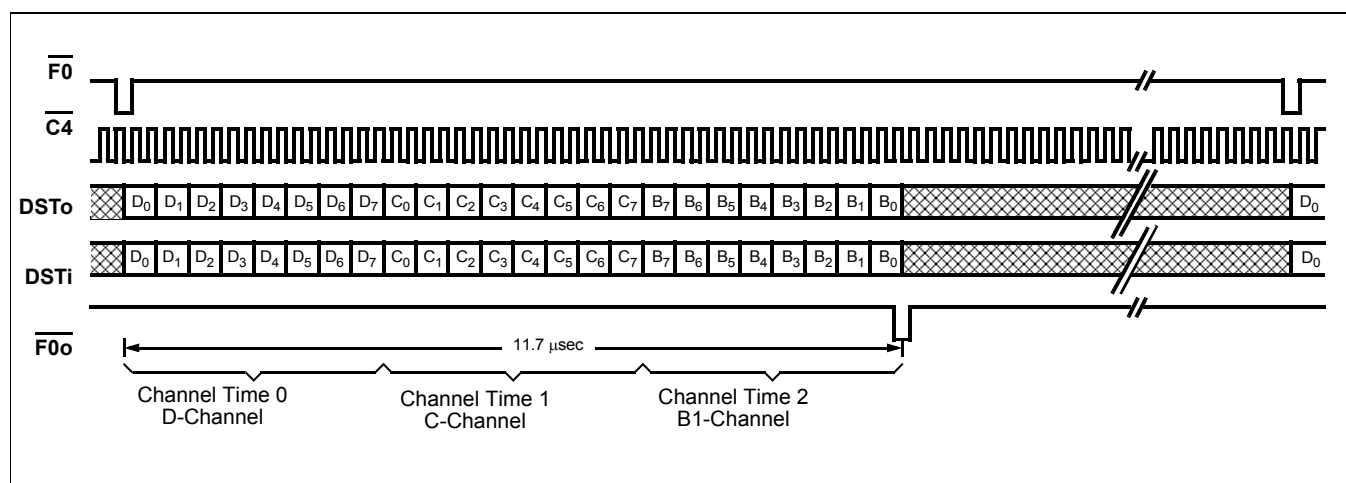
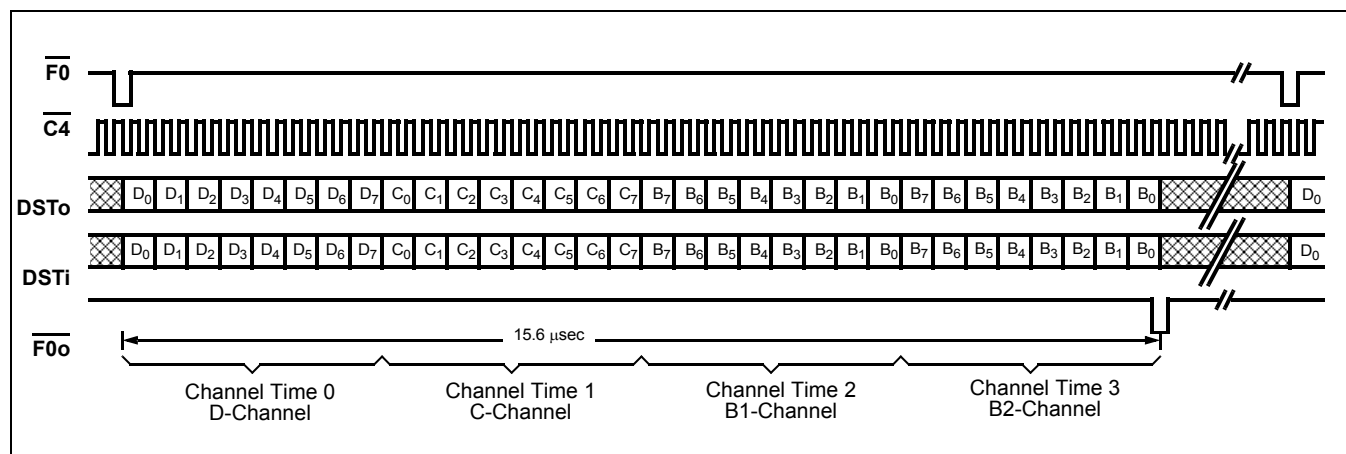
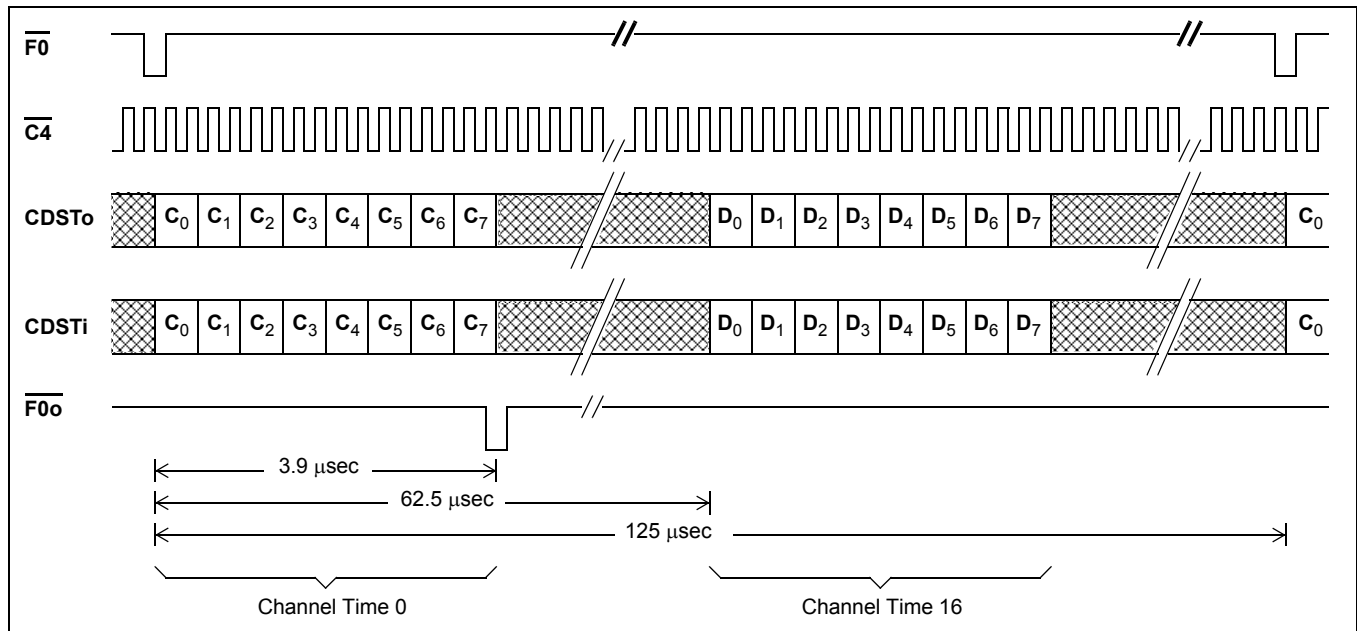

Figure 5 - DV Port - 80 kbit/s (Modes 0,4)
Figure 6 - DV Port - 160 kbit/s (Modes 0,4)
Figure 7 - CD Port (Modes 2,6)
In DIGITAL NETWORK (DN) mode there are three channels transferred by the DV and CD ports. They are the B, C and D channels. The B1 and B2 channels each have a bandwidth of 64 kbit/s and are used for carrying PCM encoded voice or data. These channels are always transmitted and received through the DV port (Figure 3, Figure 4, Figure 5, and Figure 6). The C-channel, having a bandwidth of 64 kbit/s, provides a means for the system to control the DNIC and for the DNIC to pass status information back to the system. The C-channel has a Housekeeping (HK) bit which is the only bit of the C-channel transmitted and received on the line. The 2B+D channel bits and the HK bit are double-buffered. The D-channel can be transmitted or received on the line with either an 8, 16 or 64 kbit/s bandwidth depending on the DNIC's mode of operation. Both the HK bit and the D-channel can be used for end-to-end signalling or low speed data transfer. In DUAL port mode the C and D channels are accessed via the CD port (Figure 7) while in SINGL port mode they are transferred through the DV port (Figure 5 and Figure 6) along with the B1 and B2 channels.
The D-channel is always passed during channel time 0 followed by the C and B1 channels in channel times 1 and 2, respectively for 80 kbit/s. See Figure 5. For 160 kbit/s the B2 channel is added and occupies channel time 3 of the DV port. See Figure 6. For all of the various configurations the bit orders are shown by the respective diagram. In MOD mode, the DV and CD ports no longer operate at 2.048 Mbits/s but are continuous serial bit streams operating at the bit rate selected of 80 or 160 kbit/s.
The CD port is composed of the C and D-Channels. The C-channel is used for transferring control and status information between the DNIC and the system. The D-channel is used for sending and receiving signalling information and lower speed data between the line and the system. In DN/DUAL mode the DNIC receives a C-channel on CDSTi while transmitting a C-channel on CDSTo. Fifteen channel times later (halfway through the frame) a D-channel is received on CDSTi while a D-channel is transmitted on CDSTo. This is shown in Figure 7. The order of the C and D bytes in DUAL port mode can be reversed by the mode select pins. See Table 1 for a listing of the byte orientations.